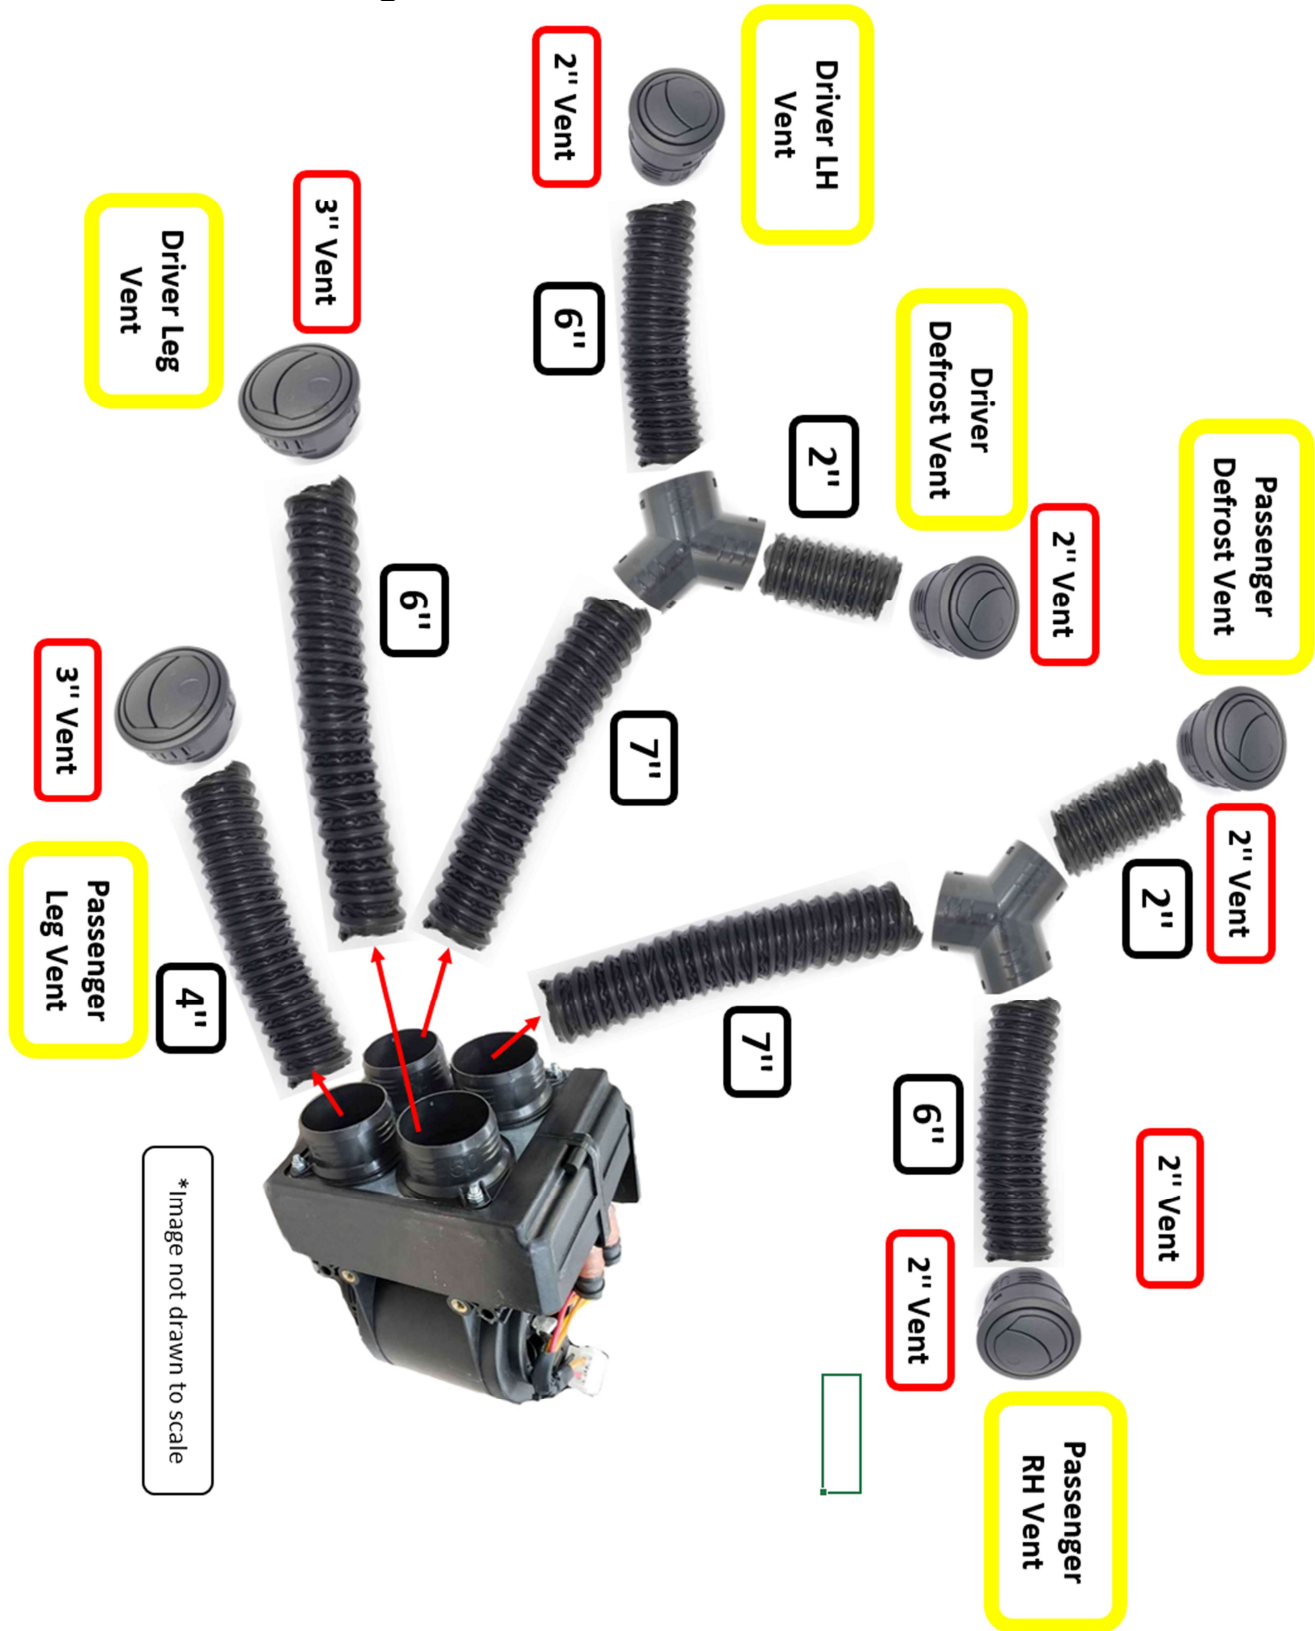

Figure 33
- a. Use the 2" Duct Hose and Figure 33 to cut the various hose lengths of hose.